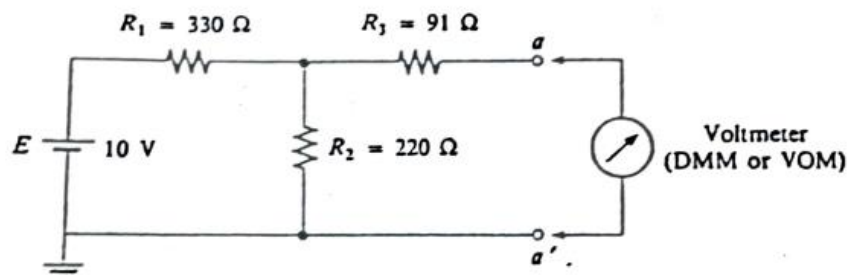

FIG 4.4
- (f) Determine E_{th} by constructing the network of Fig 4.4 and measuring the open circuit voltage between the load's terminals.